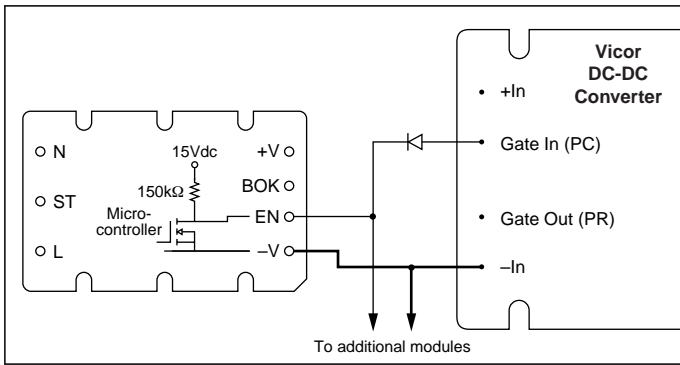

Figure 9—Enable (EN) function; See Fig. 8 for details
**Enable (EN) Pin.** (See Fig. 9). The Enable pin must be connected to the Gate-In or PC pin of all converter modules to disable the converters during power-up. Otherwise, the converters would attempt to start while the holdup capacitors were being charged through an unbypassed thermistor, preventing the bus voltage from reaching the thermistor bypass threshold thus disabling the power supply. The Enable output (the drain of an N channel MOSFET) is internally pulled up to 15V through a 150kΩ resistor.